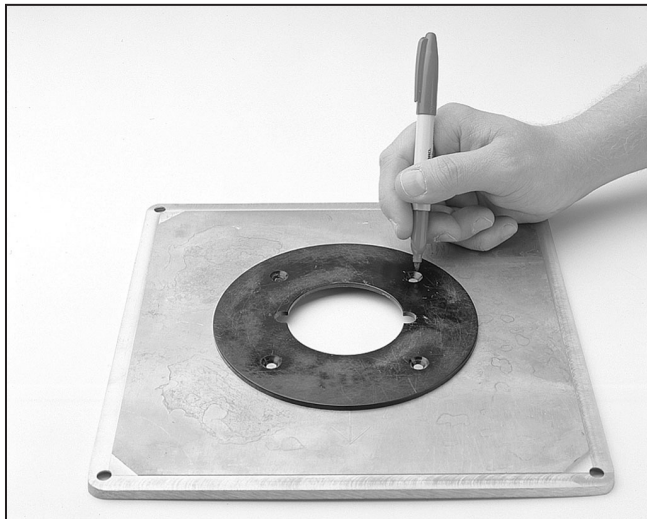

Figure 12. Marking insert for drilling.
Step 2 - Center the sub-base on the table insert and mark the screw mounting locations on the table insert. **Figure 12.** To find the center of the table insert, position the sub-base on the table insert so the distance from edge to edge on the right and left side are the same and the distance from edge to edge on the top and bottom are the same.